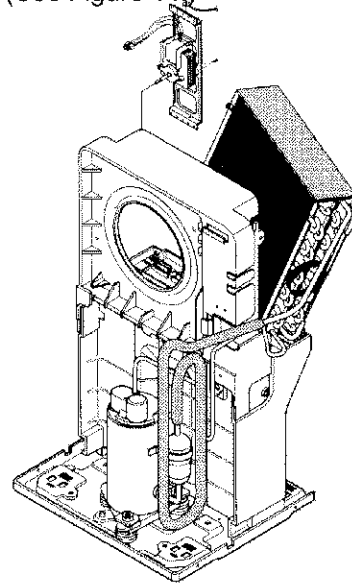

Figure 14
4. Remove the three screws that secure the fan motor and ground wire. (See Figure 14)